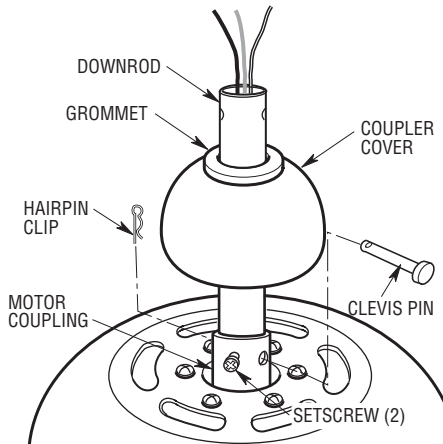

Figure 6
- 5. Make sure the grommet is properly installed in the coupling cover then slide the coupler cover on the downrod until it rests on the motor housing (Figure 6).